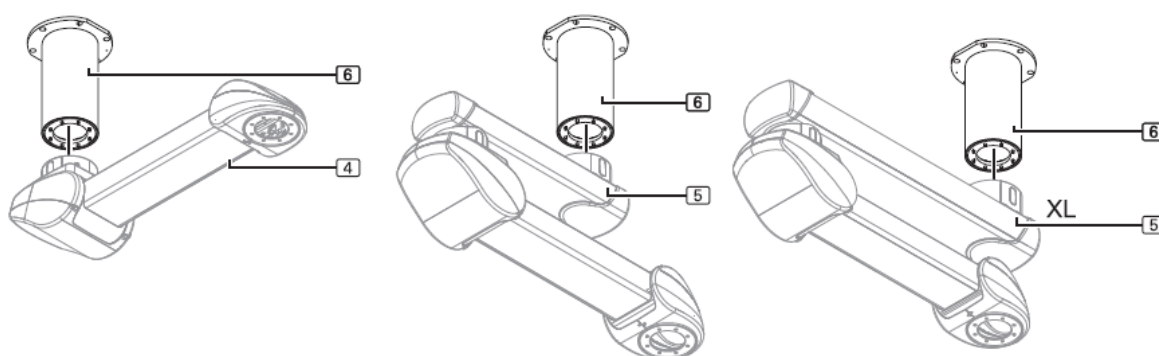

Fig. 24 COLUMN SPRING, COLUMN SPRING XL
Figure 24 shows the roof tube 6 with 8 hexagon socket head cap screws M10 x 25 mm ① - 8.8 - DIN EN ISO 4762 as an example.